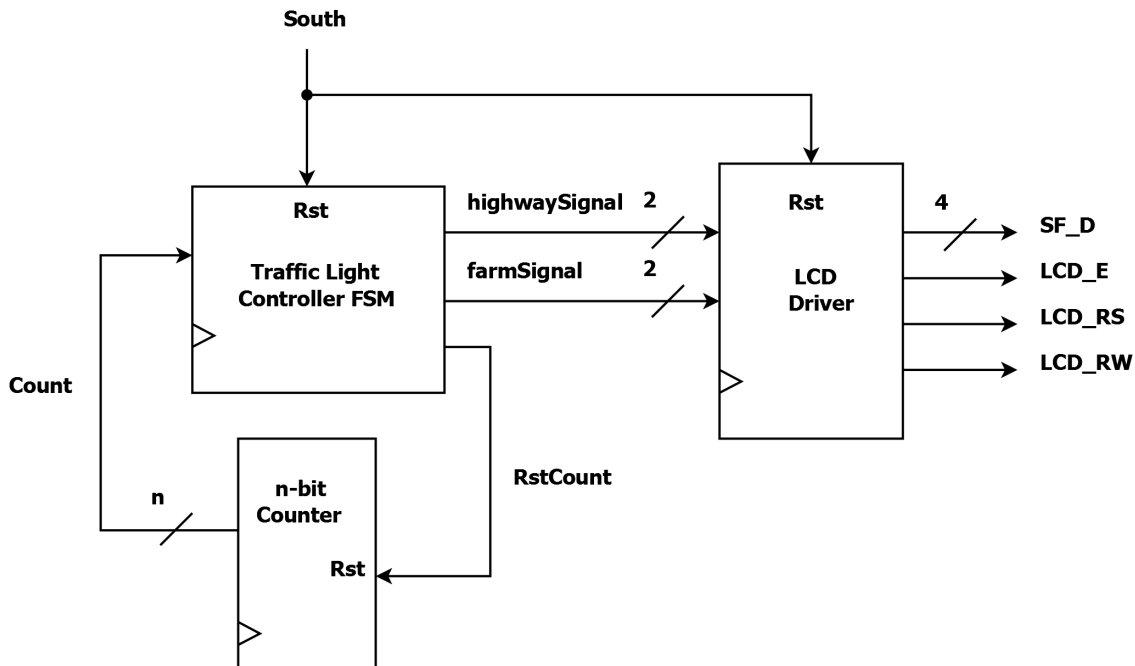

Figure 5: The Initial Traffic Light Controller Circuit
The traffic light controller will be made up of three main components as shown in Figure 5. You will be responsible for describing in Verilog the counter and FSM, while the LCD driver will be provided for you.
2. Based on the column entries you just calculated, what is the necessary value of n in Figure 5?
- (b) Create a source file called “tlc_controller.v” and use the Verilog code below as a starting point for describing the circuit in Figure 5.